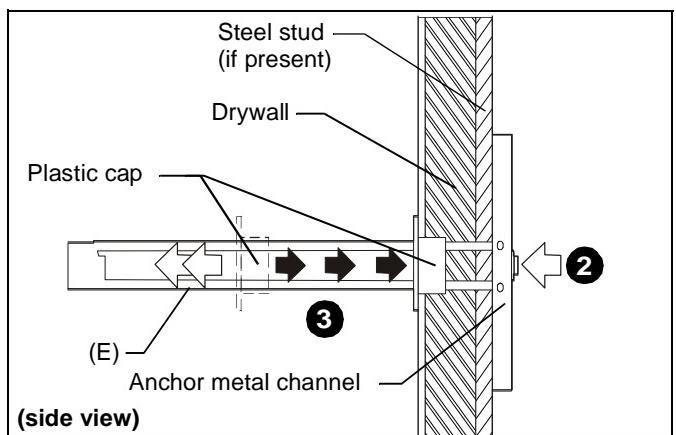

Figure 21
2. Holding plastic straps on anchor (E), pull anchor away from wall until channel rests flush behind wall making sure anchor channel is positioned vertically on drywall, or steel stud (if present). (See Figure 21)
3. Slide plastic cap on anchor (E) towards wall until flange of cap is flush with wall. (See Figure 21)